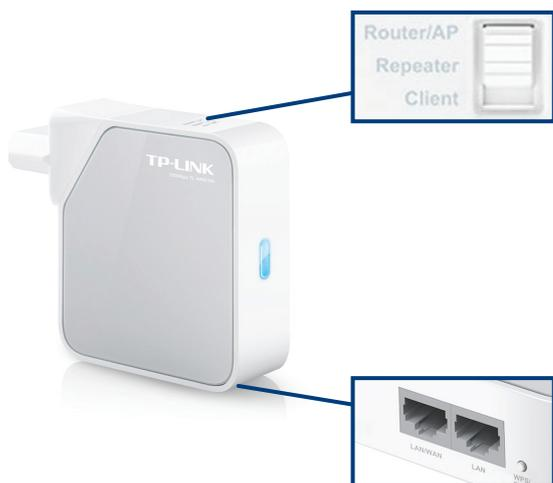

Figure 10. The router.
1. Set the operation mode switch on the upper side of the router to **Router/AP**; see Figure 10.
4. Connect one end of the LAN cable to the **LAN** port on the router (see Figure 10) and the other end to the **LAN** port on the UV monitor (see B in Figure 8).